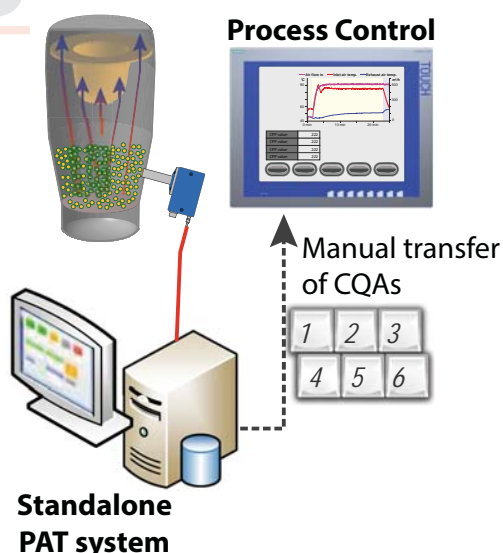

Figure 3: Basic PAT setup without any integration
1. The most basic option is to not have any integration between PAT data acquisition with MVA and the process machine. That is, the PAT data acquisition and processing is operated as a standalone system, displaying the CQA on a computer screen. If the CQA is used to terminate the process, it is the responsibility of a human operator to transfer the result to the control system of the process machine. This is illustrated in **Figure 3**. Obviously, this solution bears the same risks for human errors as the state of the art.